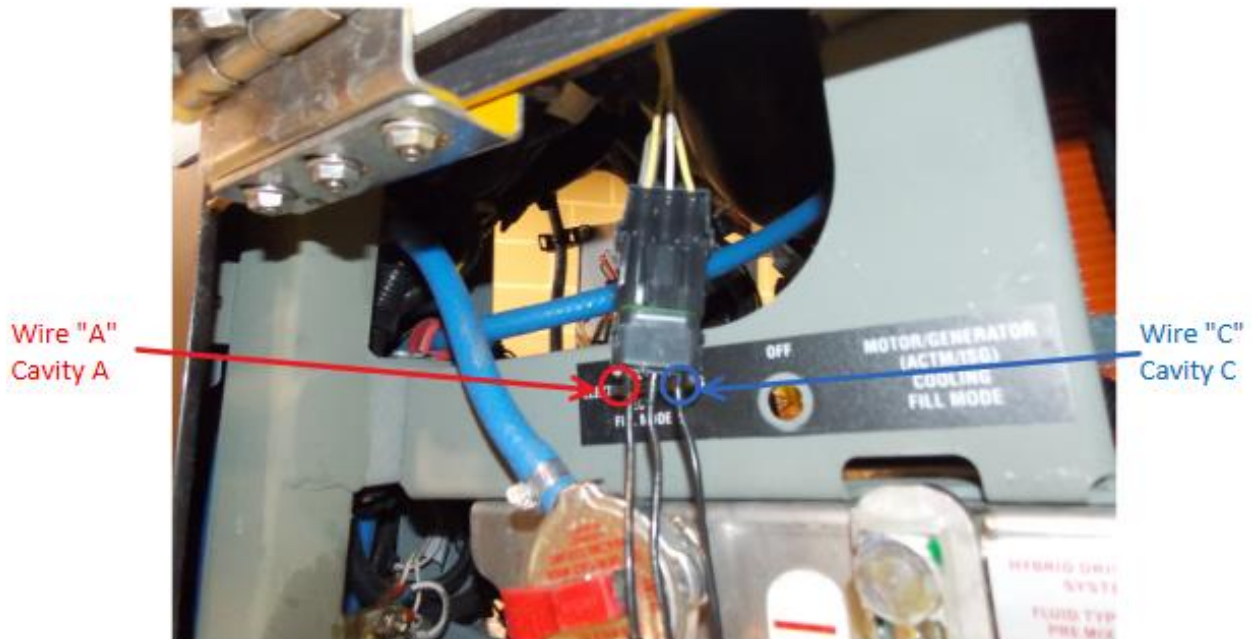

Figure 2: Fill mode switch location
3. Locate the wire connected to the fill mode switch. Refer to Figure 2.